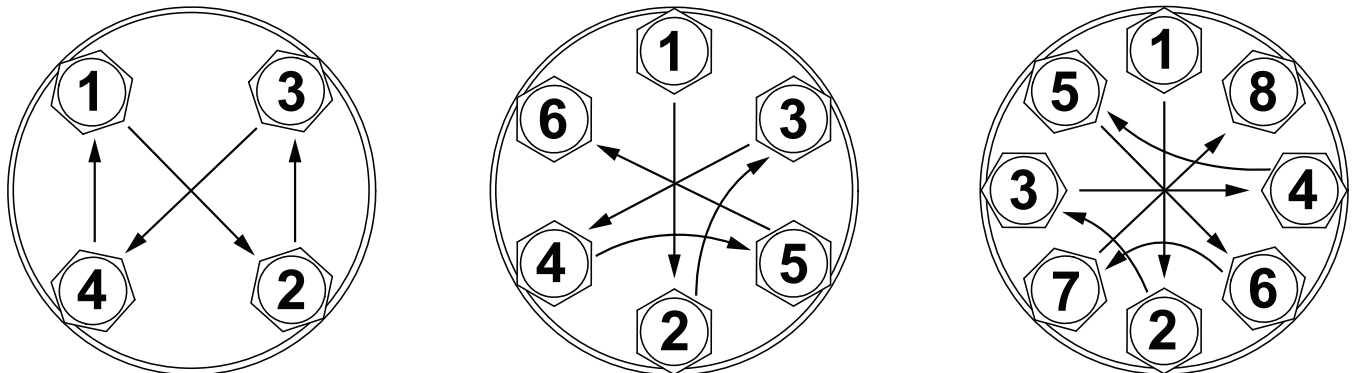

Figure 25 Bolt Tightening Pattern Diagram
- 6 Follow proper body-to-bonnet bolting procedures. Begin to torque the bonnet nuts (Key 28) $\frac{1}{4}$ (25%) of the torque value listed in Table 5, torque the nuts in a crisscross pattern as shown in Figure 25. Hot torquing the valve nuts is not recommended.